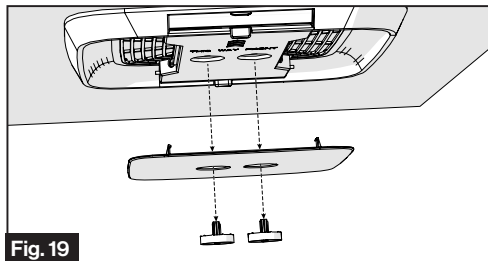

Fig. 19
1. Pull the two control knobs to remove from the air conditioning switch. Remove the decoration plate from the air conditioning system by pushing the side tabs to release. (Fig. 19)